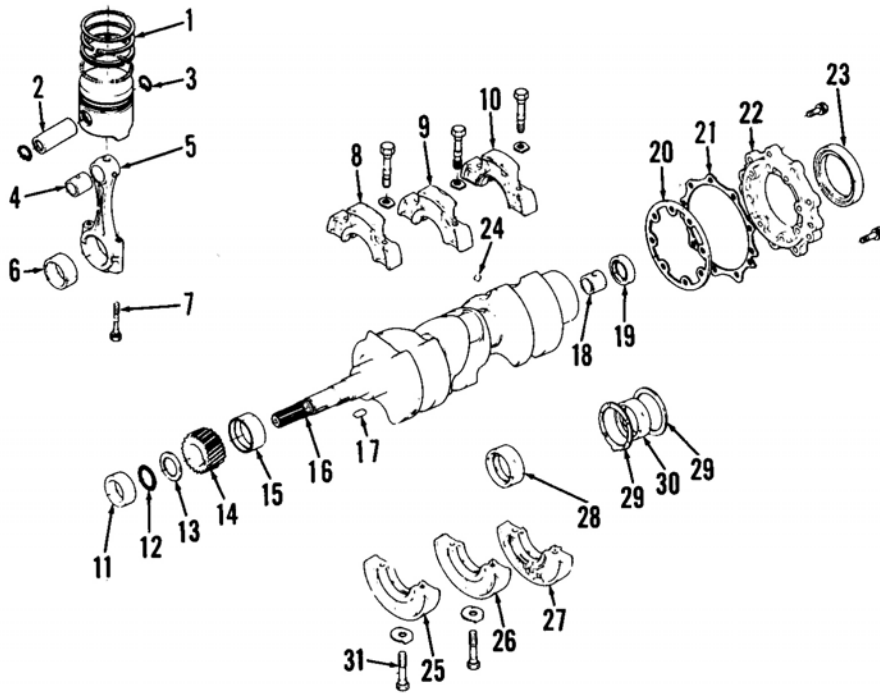

Fig. 20—Exploded view of piston, rod and crankshaft assembly.
30. R&R AND OVERHAUL. Remove engine as outlined in paragraph 18. To remove crankshaft, remove pistons and rods, timing gear cover, crankshaft gear, flywheel and seal carrier (22—Fig. 20). Free bearing carriers (25, 26 and 27) by unscrewing locating screws (31—Fig. 20 or 21). Carefully withdraw crankshaft and bearing carrier assembly out rear of cylinder block. Note that bearing carriers are a tight fit in cylinder block to prevent oil loss between oil passages in block and bearing carriers. Remove screws securing bearing carrier halves and separate halves from crankshaft. Note that main
Standard main journal diameter is 43.934-43.950 mm (1.7297-1.7303 inches). Main bearing clearance for front bearing (15—Fig. 20) should be 0.034-0.106 mm (0.0013-0.0042 inch) while clearance for all other bearings should be 0.34-0.92 mm (0.0013-0.0036 inch). Main bearings are offered in 0.20 and 0.40 mm (0.0079 and 0.0157 inch) undersizes.